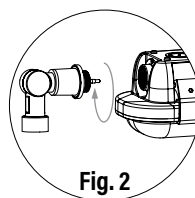

Fig. 2
2. Install elbow connector by screwing in clockwise until firmly seated. Once firmly installed, elbow socket can be carefully adjusted to desired position. (Fig. 2)